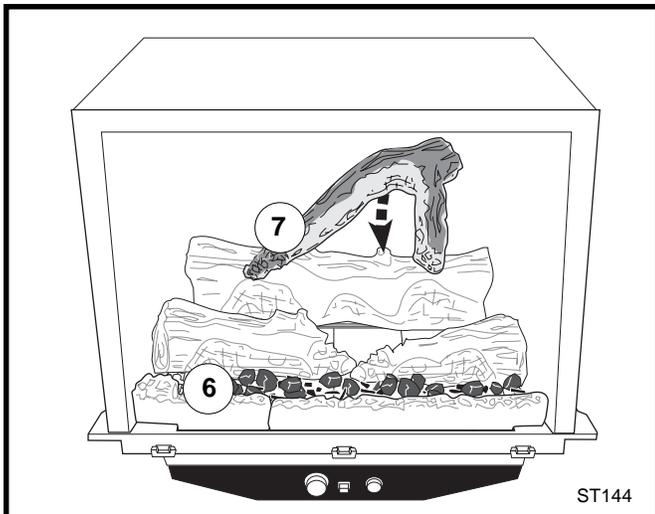

Fig. 22 Install the lava rocks and top log.
- Loosely sprinkle the lava rocks (#6) directly on top of the burner, between the front and middle logs. Do not place any ember or lava material behind the middle logs. (Fig. 22)
- Engage the sockets in the underside of the top log (#7) with the pegs on the rear log and the left middle log as shown in Figure 22. Ensure that the top log is positioned properly, relative to the right middle log, as shown in Figure 23.